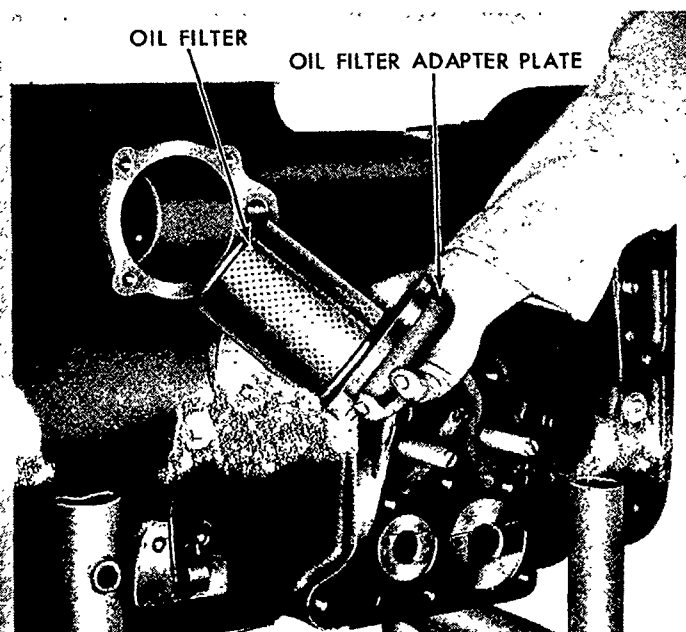

Figure 56
23. Remove the four filter cover plate bolts and remove the plate and filter as shown in Figure 56. Unscrew the filter from the adapter plate and discard the filter.